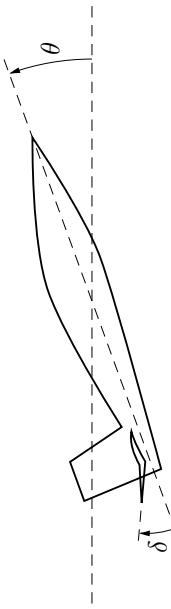

Figure 3.8a
3.8 Consider an aircraft where the pitch angle θ is controlled by the elevator deflection (Swedish: *höjdrodertslag*) δ , see Figure 3.8a. Let ω be the angular velocity,